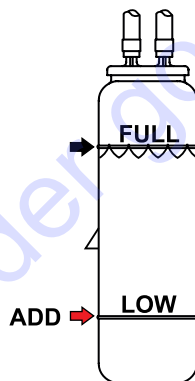

Figure 39. Coolant Recovery Tank
1. Verify that the coolant level in the coolant recovery tank is between the **FULL** and **LOW** markings as shown in Figure 39.